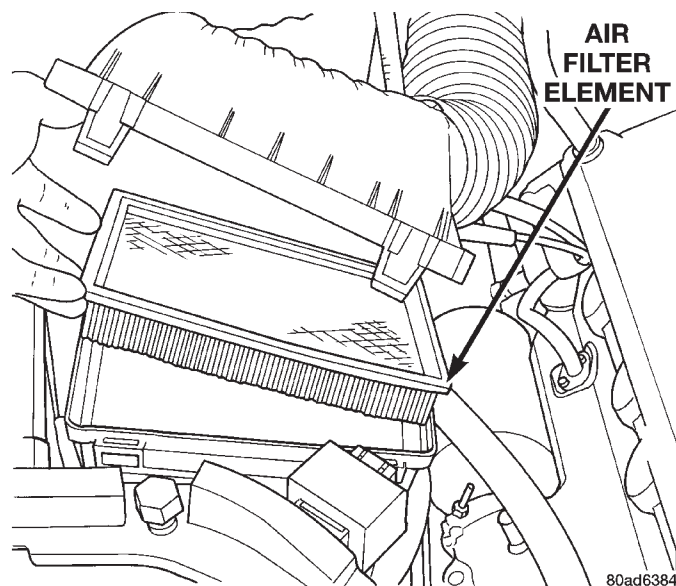

Fig. 62 Air Cleaner Housing and Element
- (1) Remove air cleaner lid. Lift lid off of air cleaner housing.
- (2) Remove filter element (Fig. 62).
- (3) If necessary, clean the inside of the air cleaner housing.
- (4) Install new filter element.
- (5) Place lid over air cleaner housing.